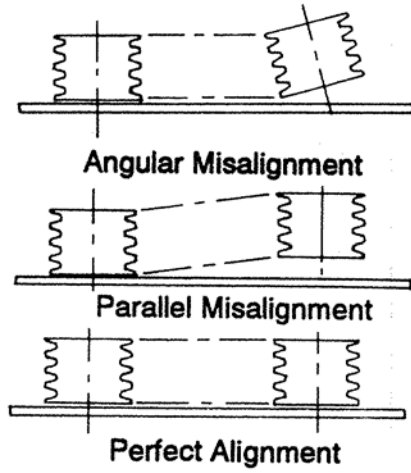

Figure 8: V-belt drive alignment
2. Loosen the thrust bearing housing locking stud nuts (370C). (Refer to 8.1.2 Disassembly of bearing housing and shaft assembly on page 28, Fig 8.
3. Turn impeller clearance adjusting bolts (3700/ccw) to move the bearing housing down until the impeller (101) touches the suction liner (1008). Turn the bolts to raise the bearing housing .06", which gives the recommended operating clearance. Make sure the impeller turns freely through the entire rotation.
6. Unbolt and remove suction cover (182) and suction cover liner (1008).
7. With the shaft (122) clamped, turn the impeller (101) in the direction of normal rotation and unscrew from the shaft. To avoid damage to shaft, wrap tape around threads.
8. Unbolt studs, nuts and bolts (370 & 371H). Remove casing (100) with rubber gasket (211).
9. Unbolt nuts (370H) from throttle bushing (473) and remove from column pipe. Access to nuts is made through column pipe relief holes.
10. Slide shaft sleeve (126) from shaft (122).
11. Disassemble column pipe (192) and discharge pipe (195).
12. Remove nuts from bearing housing locking studs (370C). See Fig. 8.
13. Draw bearing housing and shaft assembly from the frame (228).